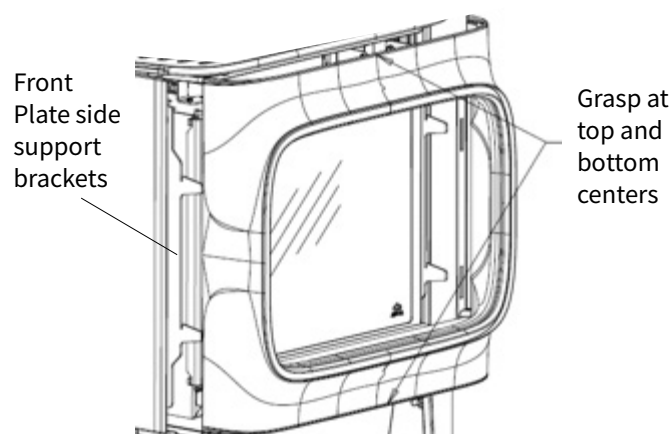

Figure 2.1. Lift Front Plate to disengage from side brackets.
- Grasp the Front Plate at the center, top and bottom, to lift it up and forward to disengage it from the support brackets at each side. See fig. 2.1.